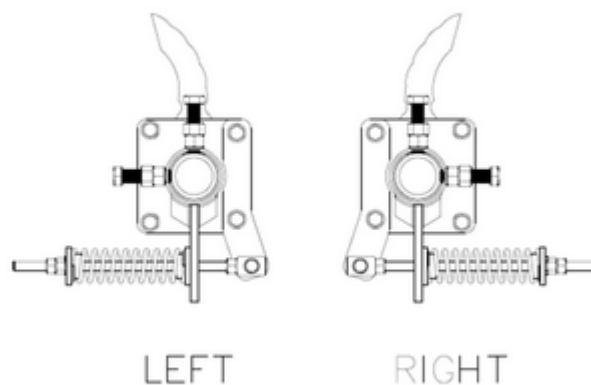

Figure 3
6. Install the tensioner. Install tensioners on both sides of the chute, for belt widths 1050mm and below one tensioner is used and a stop collar is used on the other side, making sure the correct assembly is on the right side (see **figure 3** to determine which assembly goes where). Place the pivot rod through the slot in the adjuster arm, slide the adjuster arm onto the pole and fasten the pivot arm to the mounting plate using the bolts provided. NOTE: if there is not enough room available the side assembly can be spun 90°/180°/270° to available space.